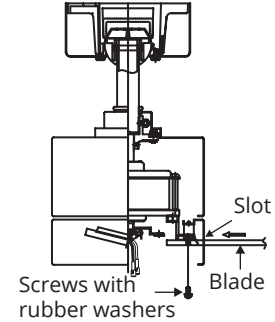

FIGURE 17
1. Attach the blade to the blade arm using the screws with rubber washers as shown in Figure 17. Start screw into blade arm. Repeat for the two remaining screws.
3. Fasten blade assembly to motor using the screws supplied. (Fig. 17)